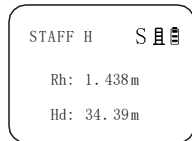
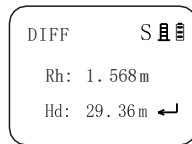
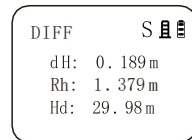

Fig 9
Fig 10
Fig 11
- (1) Press power(ON/OFF) button and wait launching complete.
- (2) Press MODE button, select Staff H.
- (3) After measurement preparation, press MEAS. Button, date will show up in few seconds. (figure 9)
(2) Press mode button, select DIFF.
- (3) Meas. BS(Staff A) will show up in screen firstly. Measure the first staff and get data as Height=1.568 Distance=29.36 (figure 9). Press SET button then Meas. FS(Staff B) shows up. Measure the second staff and get data as figure 10. In few seconds, Height difference will be figured out (figure 11). Height difference=0.189m, Height of Staff B=1.379m, Distance to Staff B=29.98